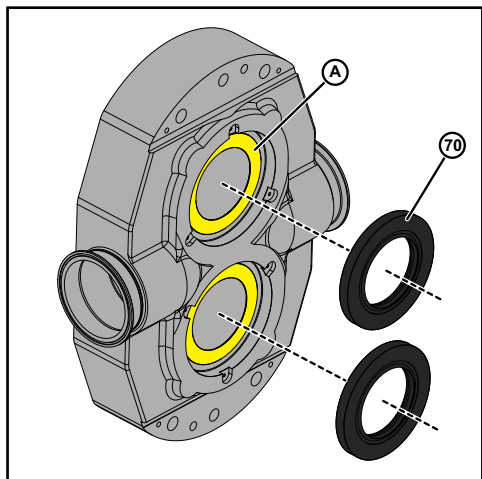

Figure 88 - Install Lip Seals
3. Apply a thin bead of silicone sealant (A) to the body, as shown in Figure 88.
4. Install the lip seals (70) into the pump body, as shown in Figure 88. Use the press tool to light press firmly and evenly into place.